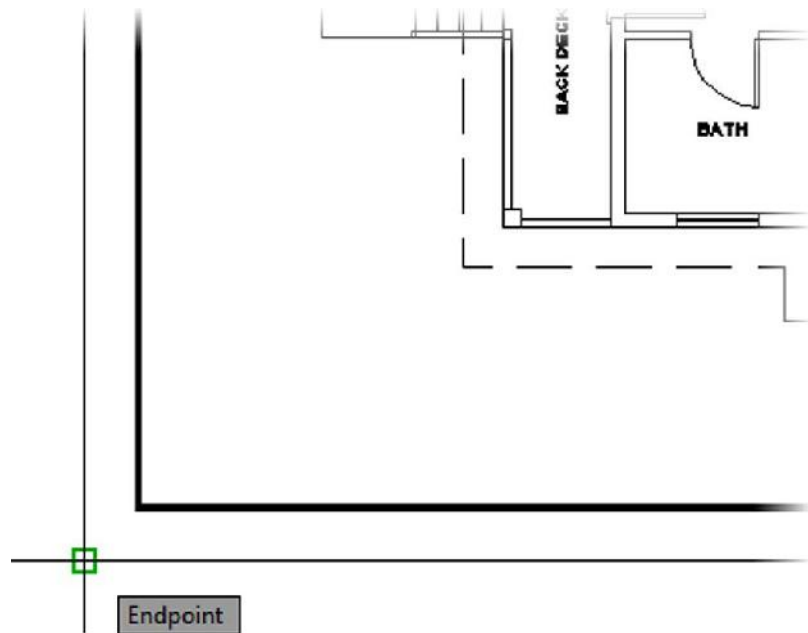

FIGURE 14.3: Choosing the base point for the title block
7. Click the Pick Insertion Base Point button, and pick the endpoint in the lower-left corner of the outer boundary shown in Figure 14.3.